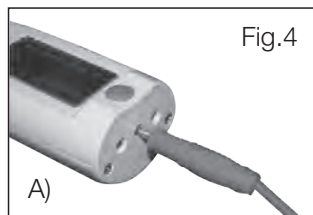

Fig.4
6.5. The cable and passive electrode connecting/ disconnecting (fig.4)